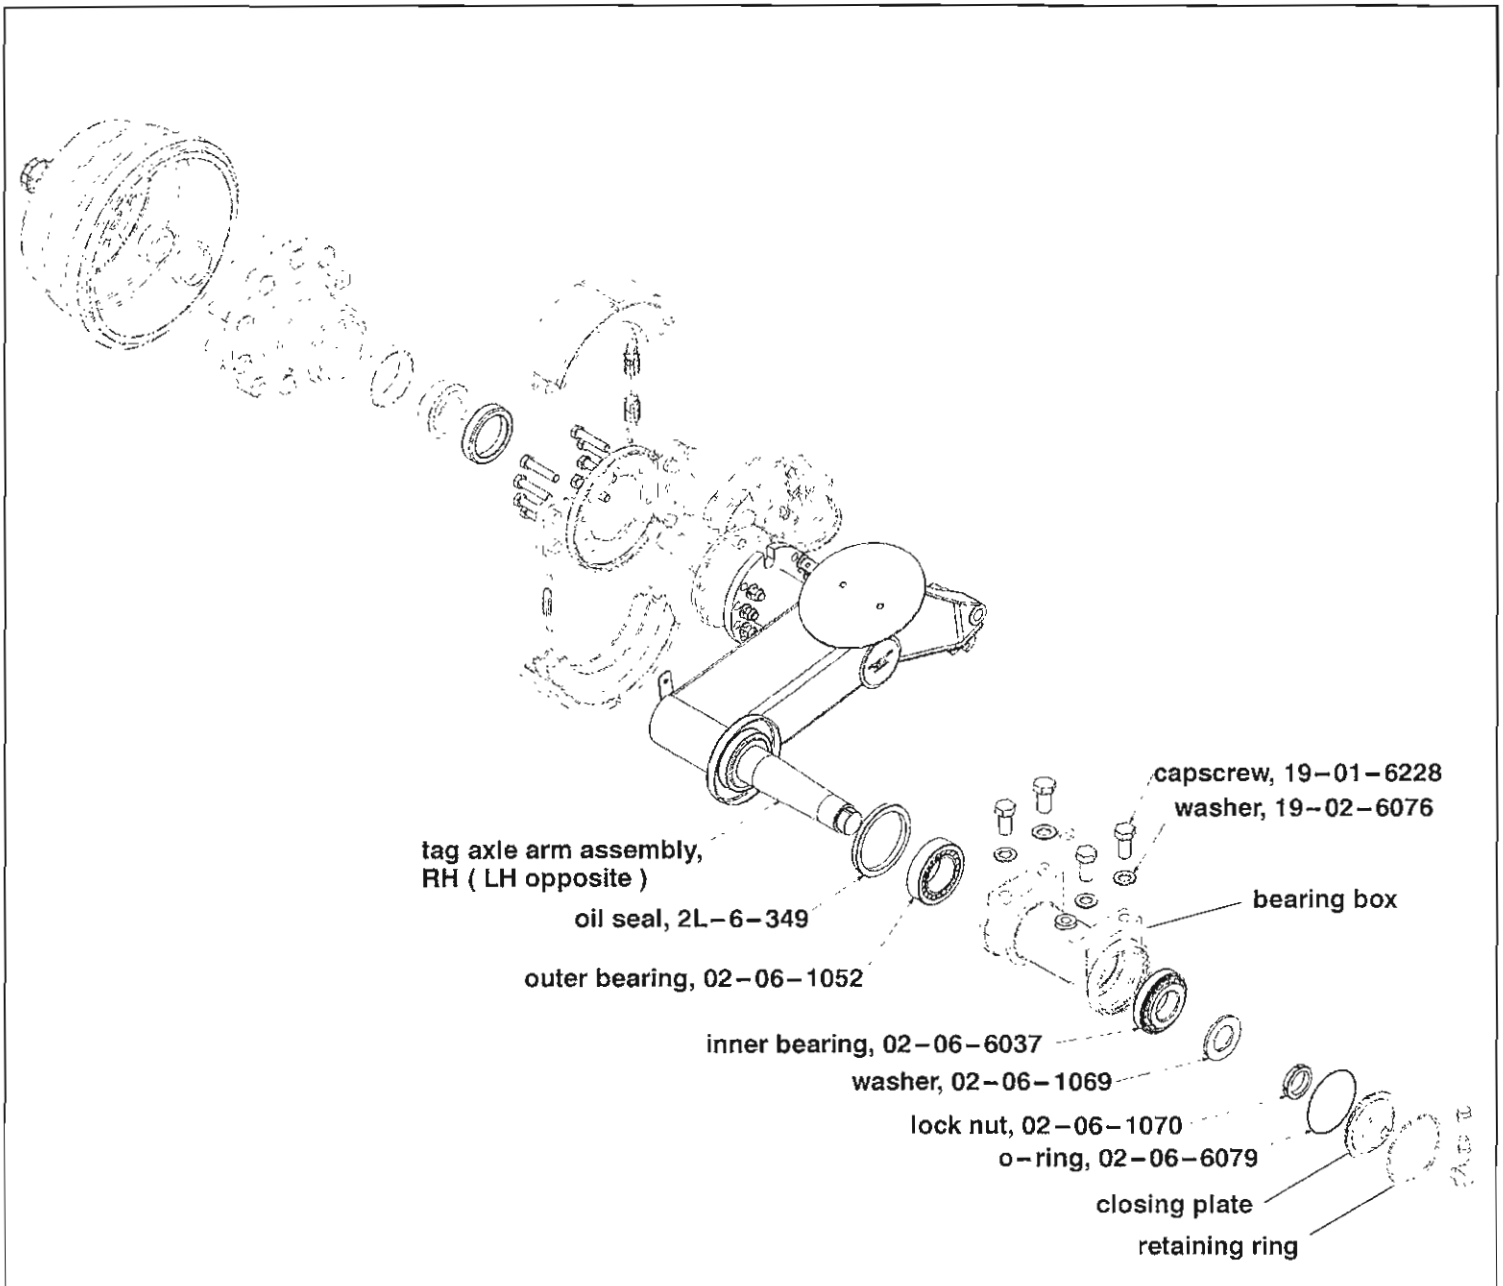

Figure 7. Tag axle arm assembly, RH.
35. After lubricating the inner lips of the seal, install bearing box assembly onto the new tag arm assy. Take care to prevent side loading the seal as the box is being assembled to prevent damage to the seal. Install the inner race of the inner bearing, p/n 02-06-6037, washer, p/n 02-06-1069 and lock nut ( p/n 02-06-1070 ) ( Figure 7 ). Torque the lock nut to 95-105 lb-ft while rotating the bearing box. Back off, and re-torque to 19-22 lb-ft, while again rotating the bearing box. Torque lock nut set screw to 5-7 ft-lbs.